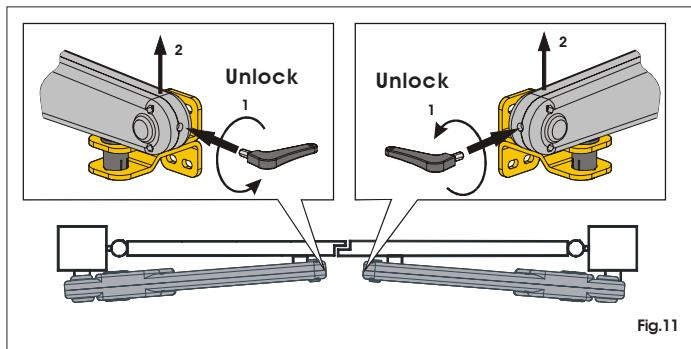

Fig.11
- Fit the supplied Allen wrench in the front part of the operator and turn it anti-clockwise for 5-6 turns (Fig. 11 Ref. 1).
- Lift the operator by its front end, detaching it from the fitting (Fig. 11 Ref.2) and remove the release key.